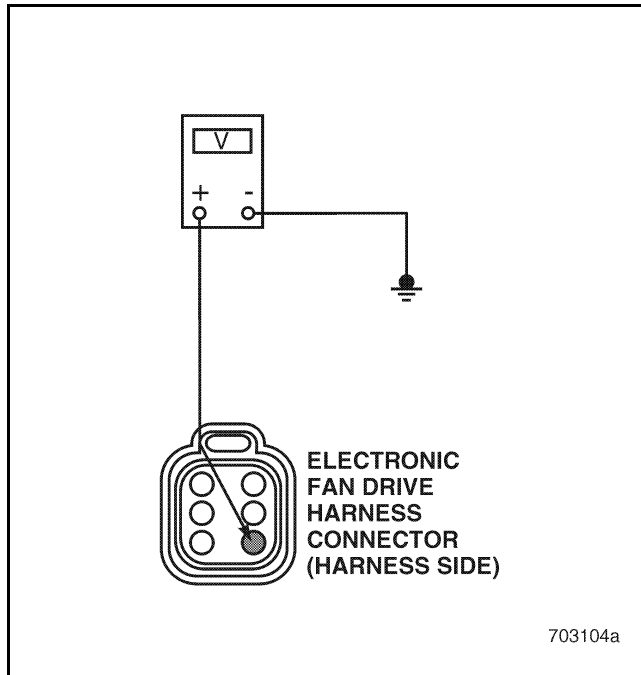

Figure 538
5. Measure the voltage between Electronic Fan Drive harness connector pin 4 and a good ground (see Figure 538).